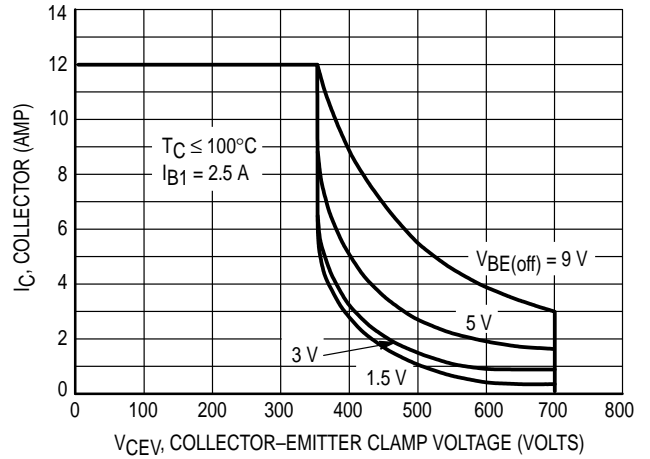
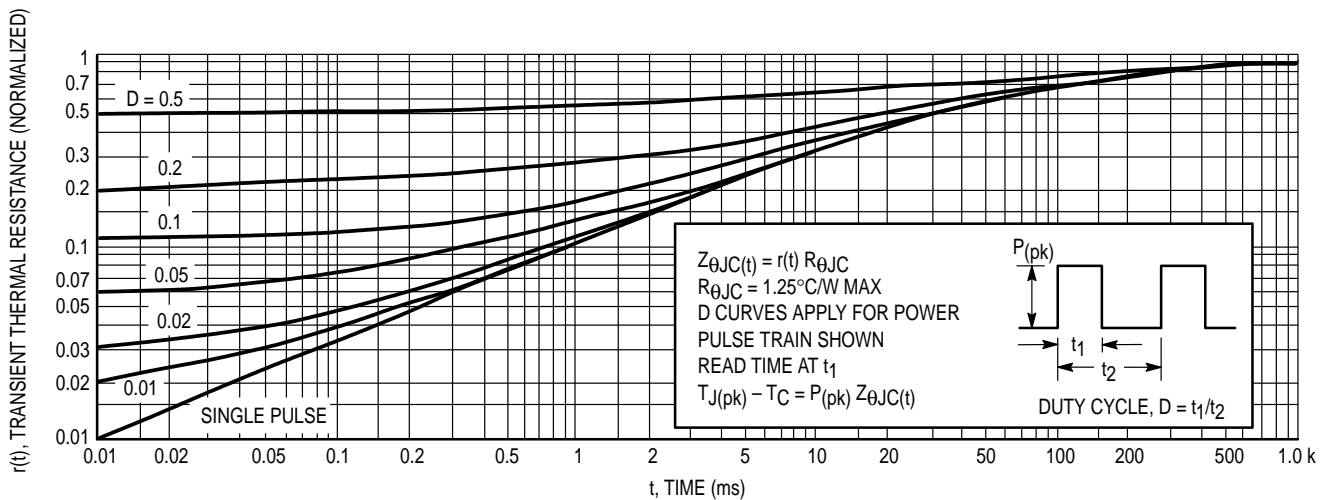

Figure 2. Reverse Bias Switching Safe Operating Area
Figure 4. Typical Thermal Response [ $Z_{\theta JC}(t)$ ]
$T_{J(pk)}$  may be calculated from the data in Figure 4. At high case temperatures, thermal limitations will reduce the power that can be handled to values less than the limitations imposed by second breakdown. Use of reverse biased safe operating area data (Figure 2) is discussed in the applications information section.
- (3) The base drive conditions are within the specified limits shown on the Reverse Bias SOA curve (Figure 2).